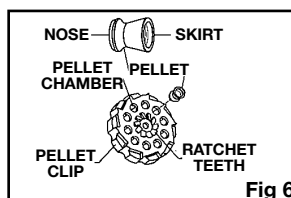

Fig 6
- Remove the pellet clip and place a .177 caliber (4.5 mm) pellet, nose first, in each pellet chamber. (Fig.6)